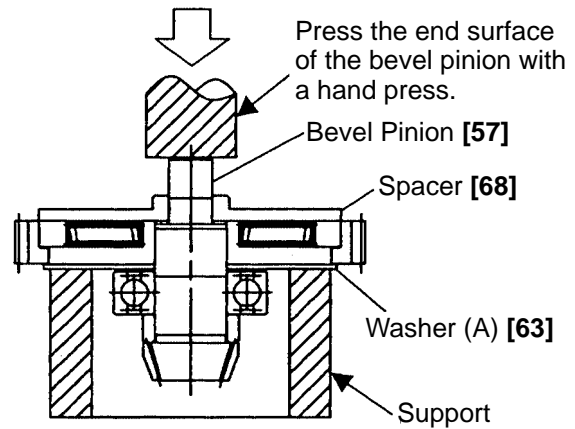

Fig. 15
(5) Disassembly of the slip clutch
Remove the Ball Bearing 629VVC2PS2L [69] with a bearing puller. Place the assembly on a sleeve-type support facing Washer (A) [63] downward as shown in Fig. 15. Push the Spacer [68] side of the Bevel Pinion [57] with a hand press to remove the Gear Holder [64] and the Spacer [68] from the Bevel Pinion [57]. Before removal of the Second Gear [67] from the Gear Holder [64], put the assembly in a poly bag and disassemble it inside the poly bag to prevent missing of Spring (C) [65] and the Needle [66].